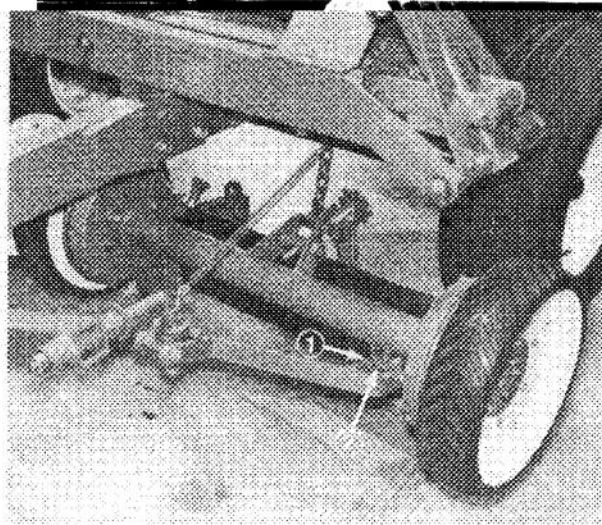

Figure 16
1. Align holes in drawbar with brackets on mower cross-tubes. Secure each side with 1/2-13 x 3-1/2" cap screw, spacer tube and 1/2-13 locknut (Fig. 16).